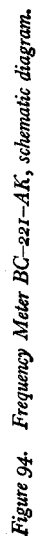

Figure 94. Frequency Meter BC-22I-AK, schematic diagram.
The BC-221-AK is very similar to the BC-221-AG described in chapter 9 of this manual with regard to the operation of the variable frequency oscillator, the detector and crystal oscillator, and the audio-amplifier circuits. A six-position operation switch is employed, however, instead of the four-position switch which was used on earlier models made by the same manufacturer. This six-position switch controls two additional circuits, one for the modulator and one for the filament of the variable frequency oscillator tube. At the **WARM-UP** position of the switch, only the filament of variable frequency oscillator Tube VT-116 (6SJ7) draws current. In the **MODULATE** position, the circuit of the audio-amplifier stage is changed to that of an audio oscillator which is coupled to the plate circuit of the variable frequency oscillator so that modulation of the r-f output will take place. (See fig. 94.)
e. **OSCILLATOR FUNCTION.** (1) The variable frequency oscillator circuit is in operation at the CHECK, OPERATE, and MODULATE positions of the operation switch 28. (See fig. 94).
(2) At the CHECK position, the output of oscillator Tube VT-116 (6SJ7) is applied to one of the grids of detector-converter Tube VT-167 (6K8) where it is mixed with the output frequency of the crystal circuit. The result is a frequency equal to the difference of the two, and is used to adjust the frequency of the oscillator by means of the CORRECTOR control.
(3) At the OPERATE position, the variable frequency oscillator is in operation while the crystal oscillator is not. If the antenna is in position, the frequency meter may be used to receive or send any frequency in its range, that is, it may be used as a radio receiver or transmitter.
297. Power Supply Circuit (fig. 94)